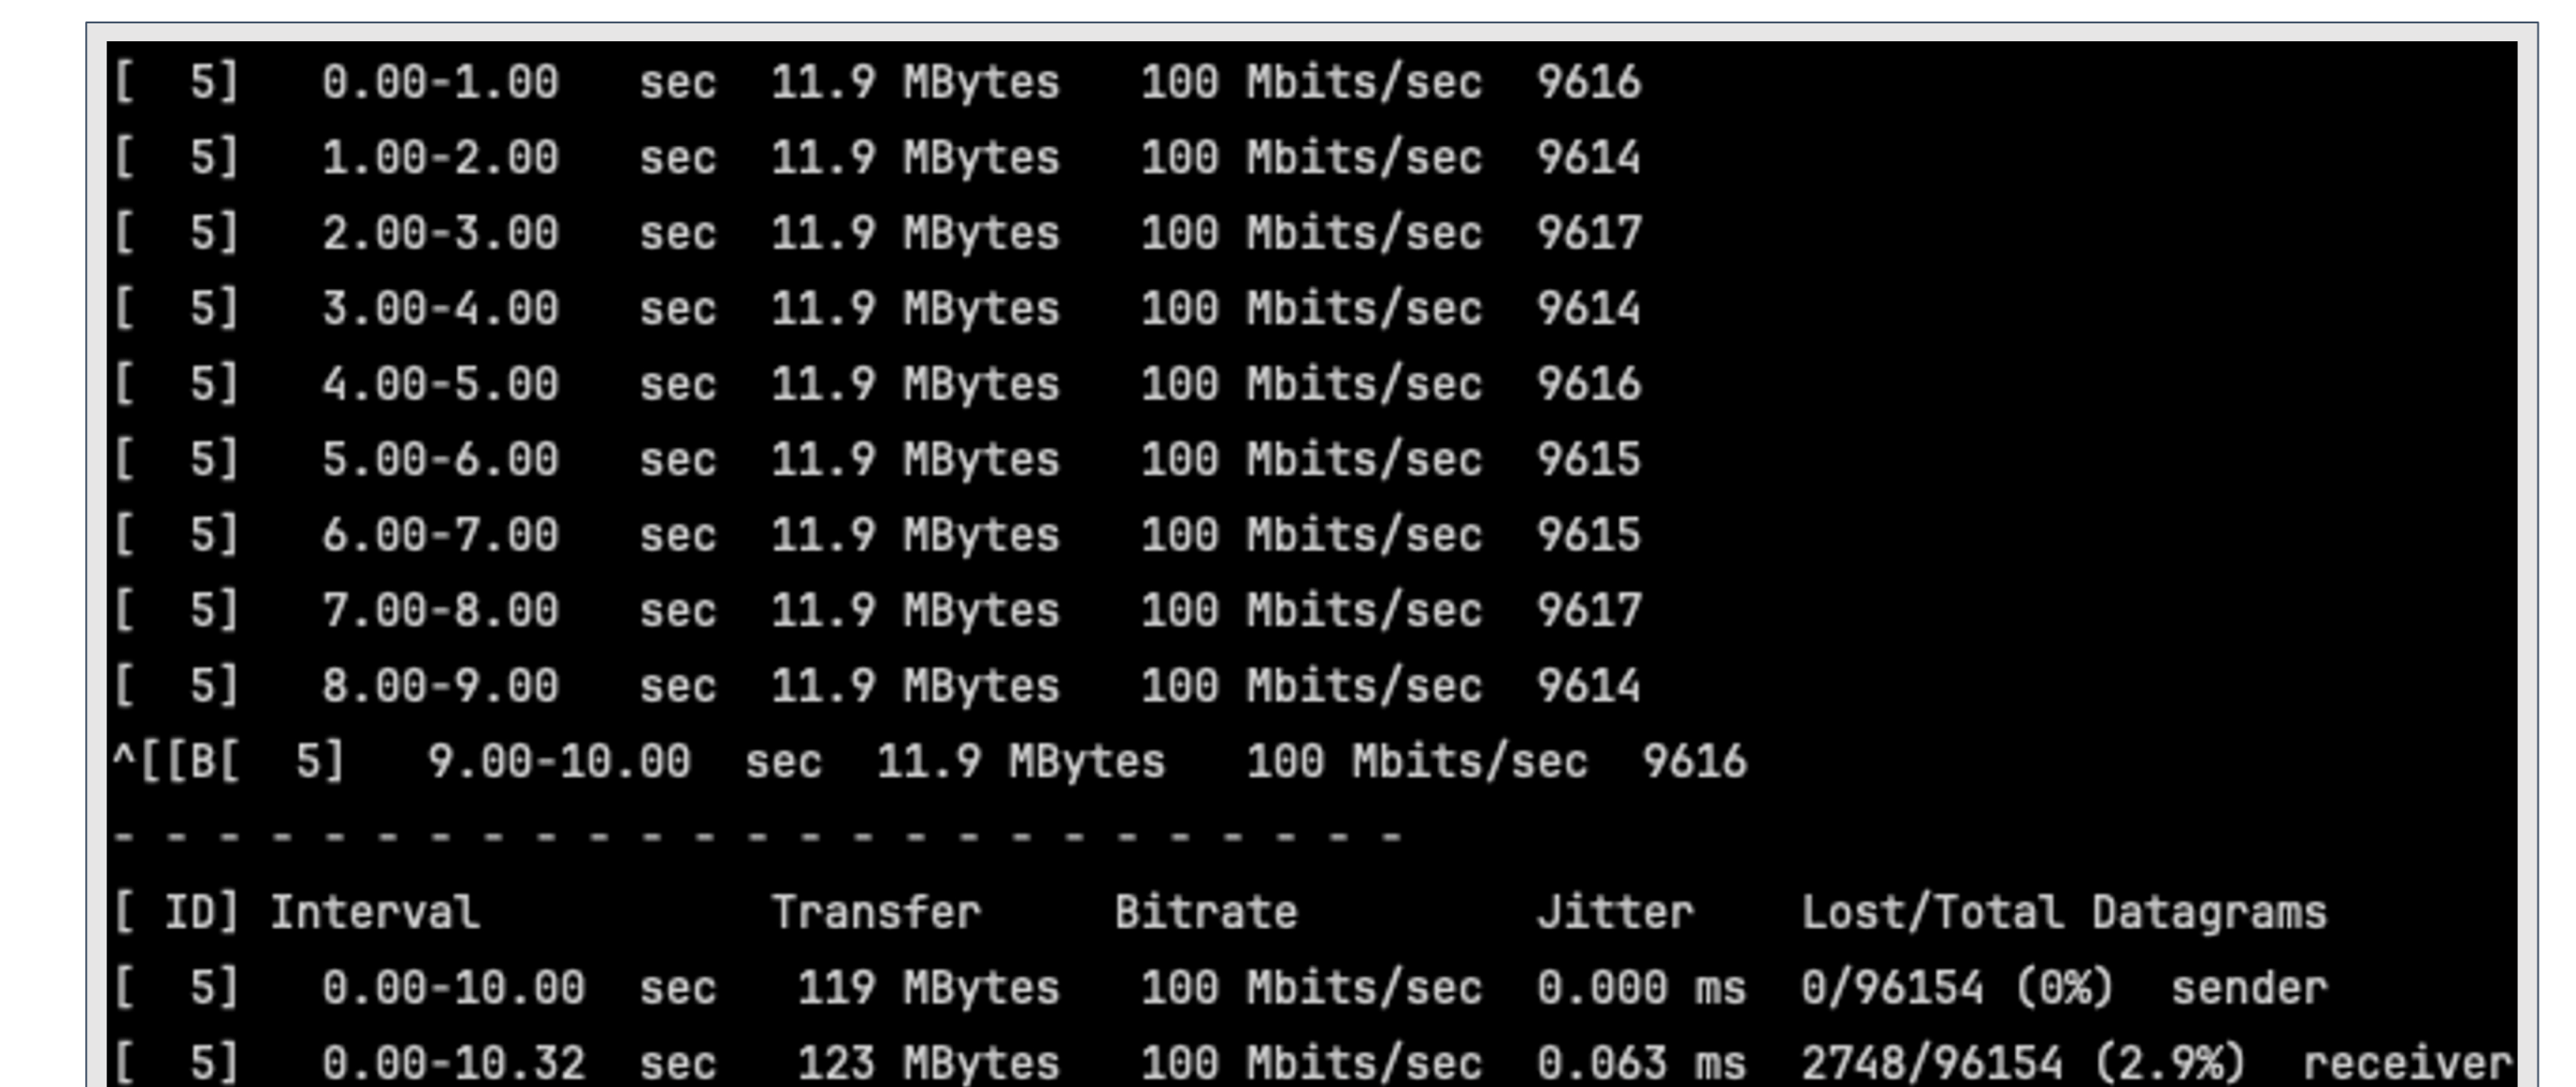

Figure 3. iperf3 session
- We use iperf (Fig 3) across the first ingress sites and the last egress sites. The software switch is the performance bottleneck.